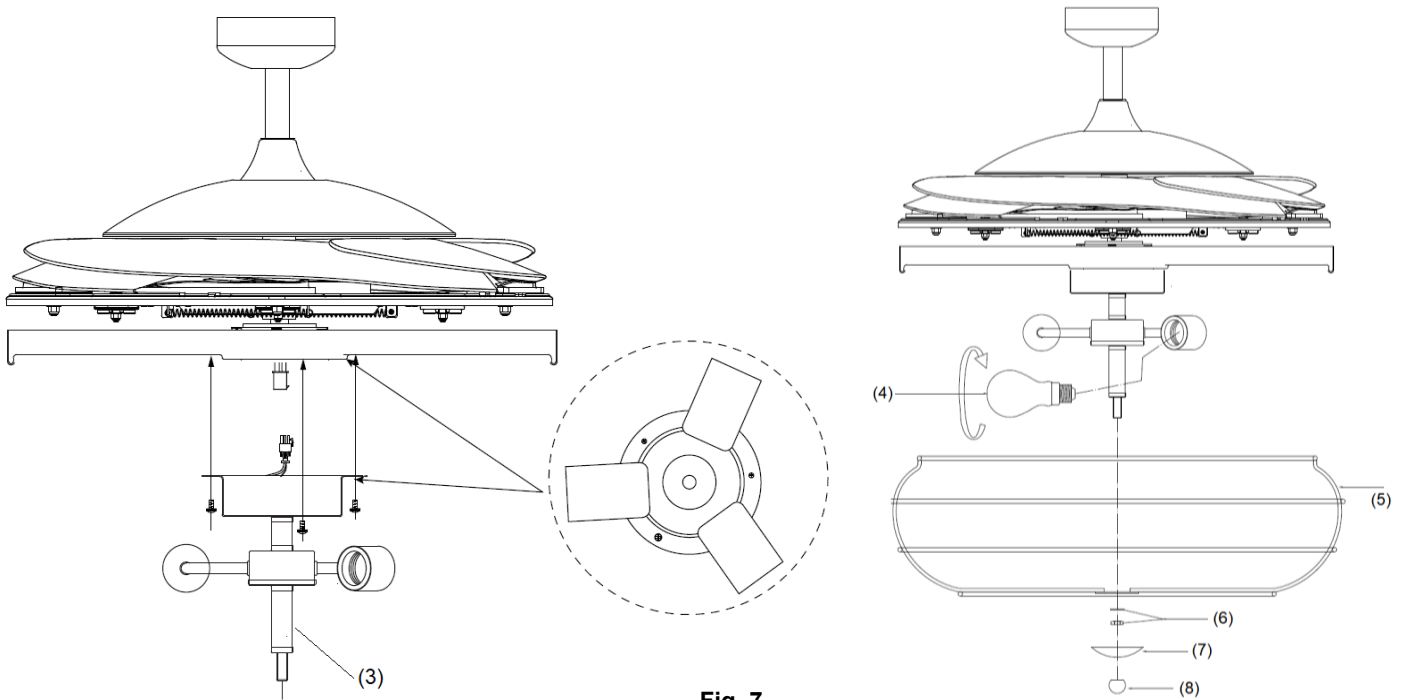

Fig. 7
4. Connect the quick connector to the lamp holder part (3). (Fig. 7)
5. Secure the lamp-holder part (3) to the light kit bracket by tightening the 3 screws. Do not over-tighten.
6. Install the globes (4) (Not included) to the lamp holders. Do not exceed the maximum power rating.
7. Install the lamp shade followed by the washer and the nut (6). Tighten the nut (6).
8. Install the decorative cover (7) by tightening the nut (8).